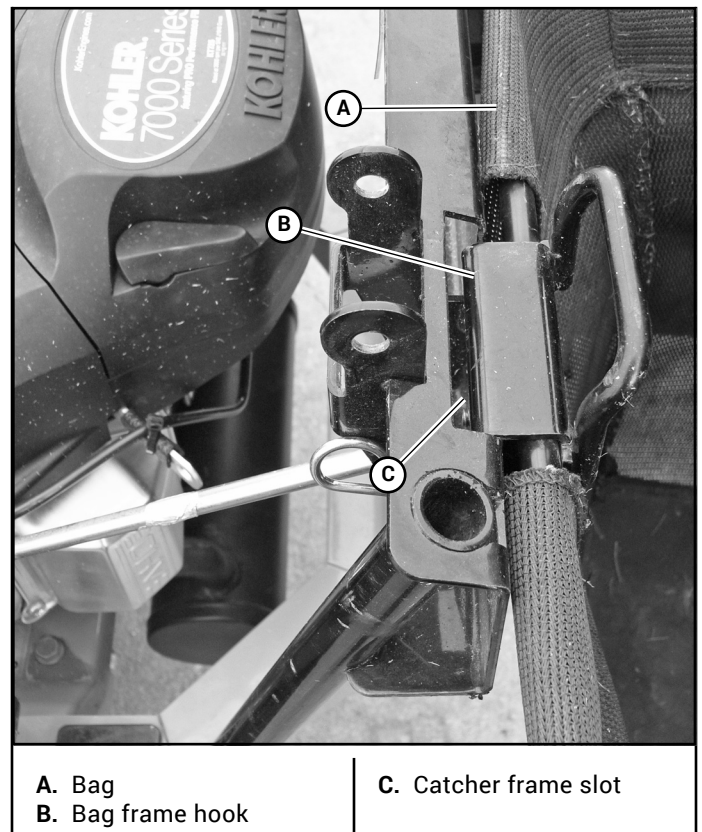

Figure 3-16
19. Place the bags on the catcher frame by inserting the bag frame hook into the catcher frame slot. Figure 3-16